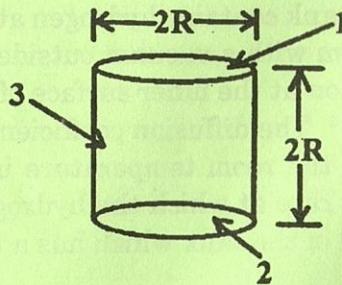

Fig. 1 Cylindrical enclosure
3. (a) Calculate the view factors for the cylindrical enclosure of radius  $R$  and length  $2R$  shown in Figure 1. The surface 1 and surface 2 in the figure are plane and  $F_{12} = 0.38$ . 5